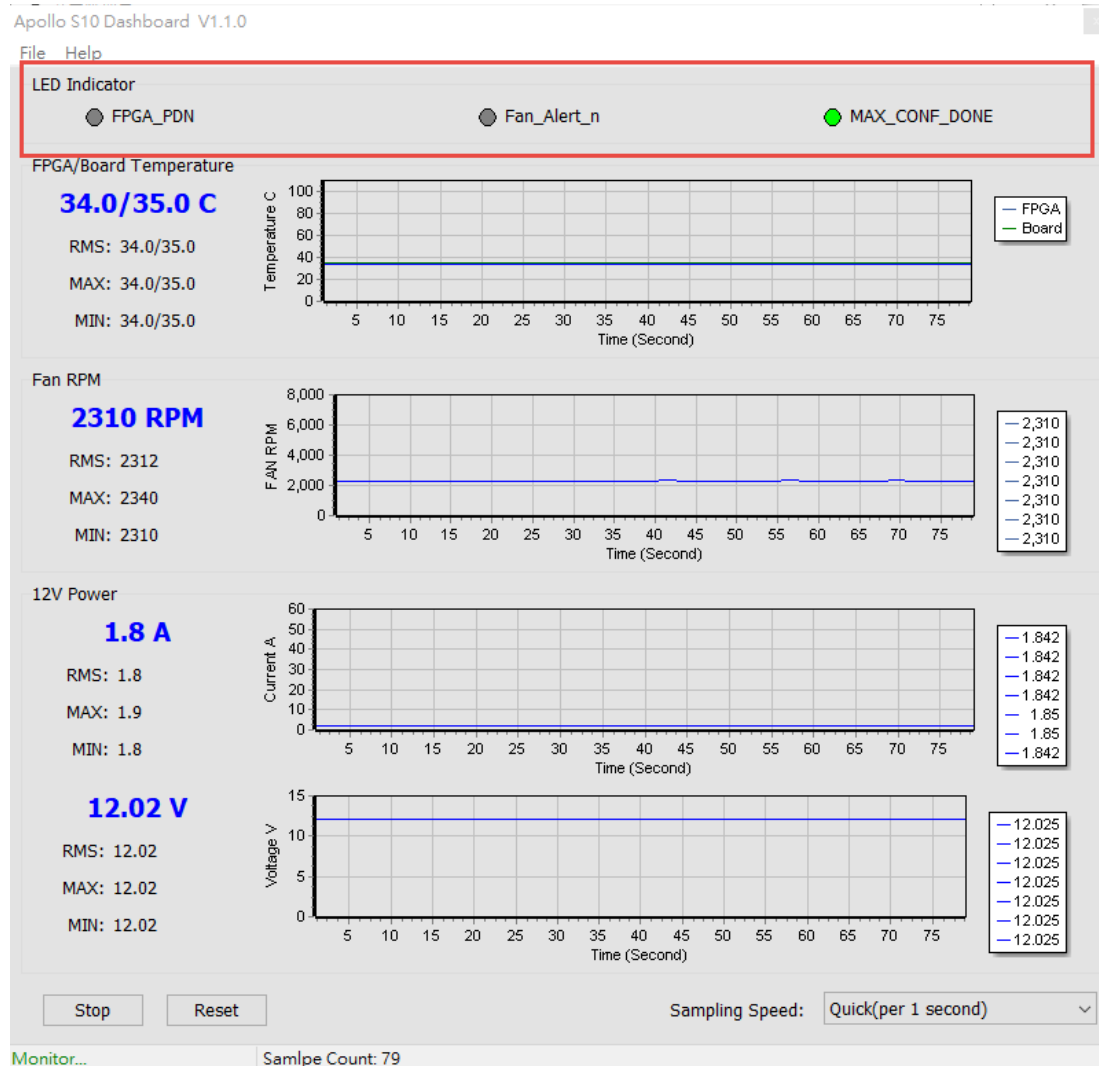

Figure 4-8 FPGA Status section
- **FPGA Status:** As shown in Figure 4-8, it will show the status LED number on the Apollo S10 board. For these LEDs function, please refer to section 2.2. **Note that** “MAX_CONF_DONE” stands for FPGA configure done status. There is no LED on Apollo S10 board to display status. When this status is shown in green on the GUI, it means that FPGA configuration has been completed.